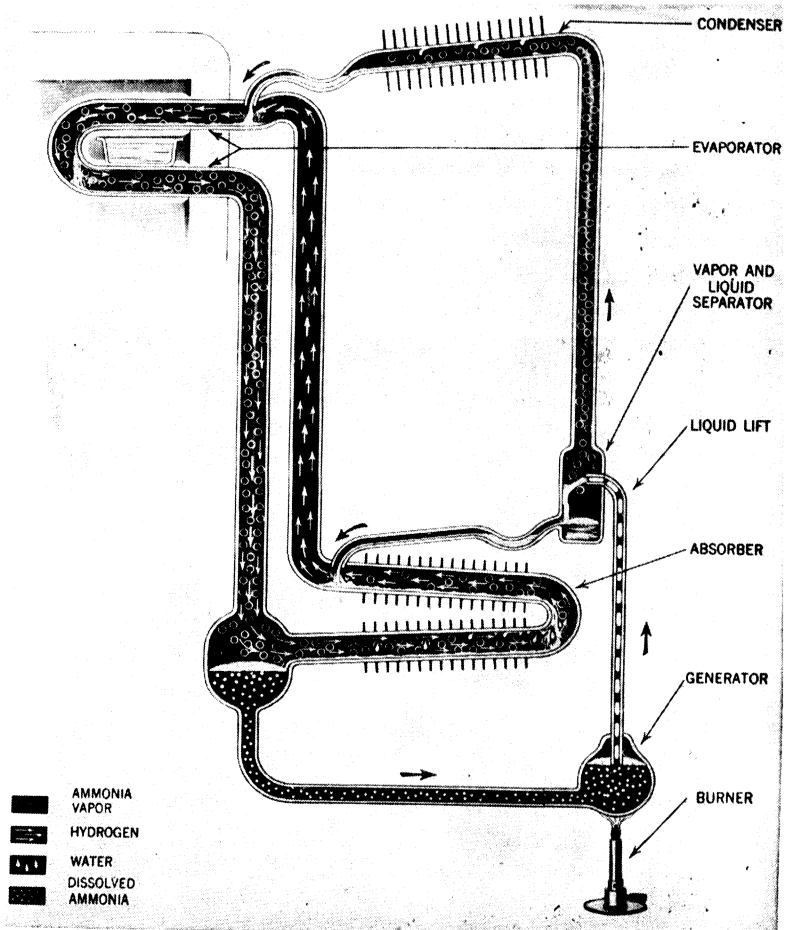

Fig. 16.5. Gas refrigeration cycle. (Copyrighted by Servel, Inc. Reproduced by permission)
3. Gas refrigeration. In contrast to electric refrigeration, which is a compression system, gas refrigeration is an absorption system. Since the gas refrigerator has no moving parts, it operates very quietly. The source of energy is a small gas flame. The gas may be either natural gas or some type of bottled gas. The cycle of operation is shown schematically in Figure 16.5. The refrigerant is ammonia, which is liberated from a solution of ammonia in water when the solution is heated. The ammonia is transferred from one part of the system to another through an atmosphere of hydrogen. The total pressure, which is made up of the pressure of the ammonia plus the pressure of the hydrogen, is the same in all parts of the system.